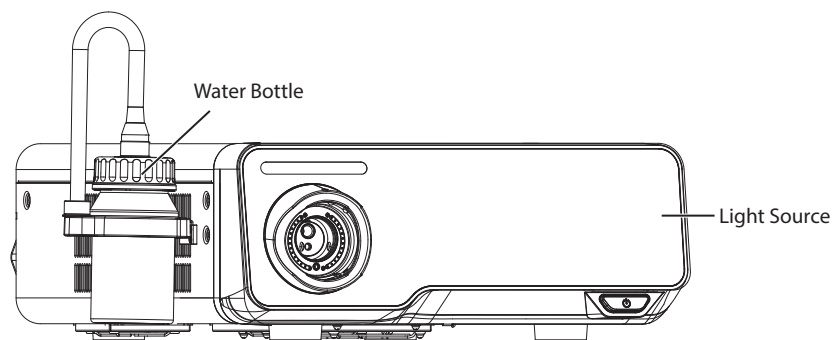

Figure 3-4 Water Bottle Installation
1. Tighten the bottle cap and fix the water bottle on the bracket, as shown in Figure 3-4.